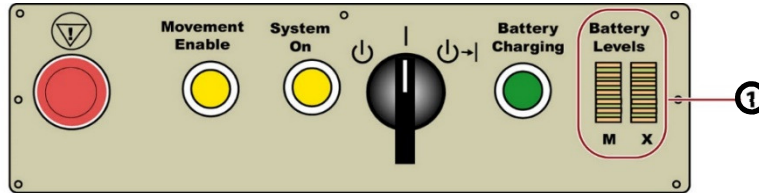

FIGURE 1
Battery Level Indicators: On the IAS Power Control Panel shown in Figure 1, the two columns of yellow LED lights (①) indicate the battery levels for the motion batteries (**M**) and the X-ray batteries (**X**). See “Battery Charge Level Indicators” in the user manual for more information about battery charge levels represented by the scrolling LEDs. See “User Performance Checks” in the user manual to ensure proper operation of the machine.